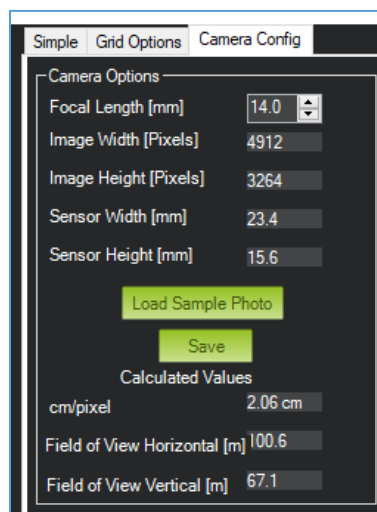

Figure 20 – Mission Planner Camera Config tab
10. On the camera config tab, set the values as shown in Figure 20.
11. Check the distance between flight lines on the Grid options tab and make sure it matches our desired line spacing. If not, adjust the focal length on the Camera config tab until the desired flight spacing is achieved. The values in Figure 20 will allow us to adjust the flight altitude while maintaining 30% side overlap.
Note: If planning for camera, a sample photo can be loaded (Figure 20) to create a grid mission based on the camera properties.